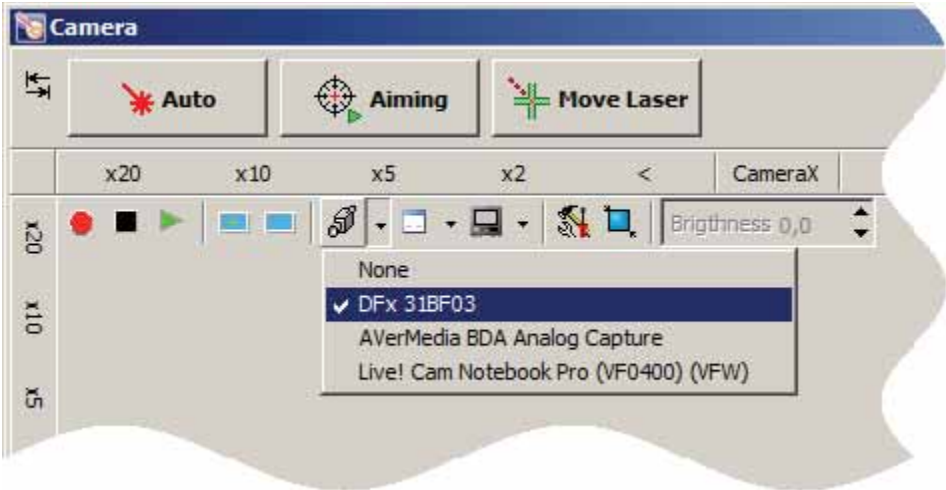

Fig. 5-22. Activating the video camera
- 3. Click the  button. In the newly opened list, select DFX 31BF03 (see Fig. 5-22).